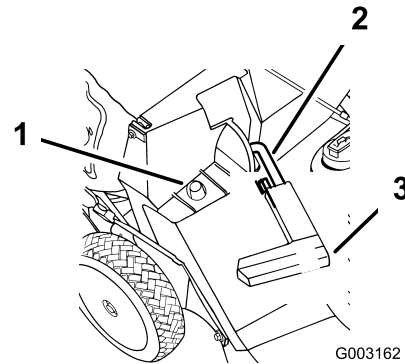

Figure 18
2. Ensure that the discharge door handle is fully forward and that the pin is engaged in the catch (Figure 18).
3. Slide the hole in the bag frame onto the retaining post on the discharge tunnel (Figure 18).
2. Raise the discharge door handle and move it forward to engage the pin with the catch (Figure 18).